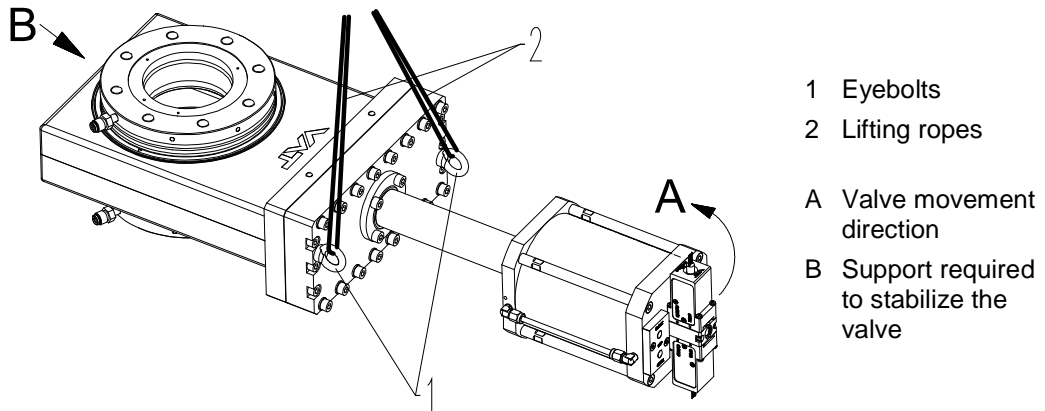

Figure 4-1
Open the outer plastic bag protecting the valve only at the points where you need access to the eyebolts (1) for fastening the crane hooks; see «Figure 4-1» on page 10. Keep valve in the plastic bag until it is being installed into the system.
<p>Wrong lifting Valve may crash and get damaged. Use only the eyebolts shown in the dimensional drawing and in «Figure 4-1» on page 10 to lift the valve. Using any other components (e. g. position indicators, solenoids) to lift the valve is strictly forbidden.</p>
Use a crane for lifting valve DN100 and higher out of the transport box; see «Figure 4-1».